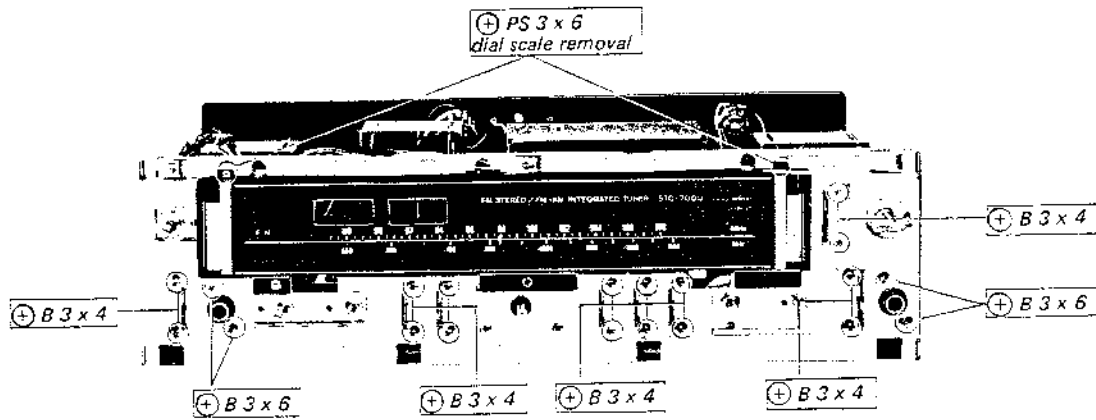

Fig. 2-11. Dial scale, control, switch and jack removal
2. Remove the two screws securing the dial scale holder at both sides of the front subchassis as shown in Fig. 2-11. This frees the dial scale.
Remove the screws or nuts securing each component to the front subchassis. See Fig. 2-11.